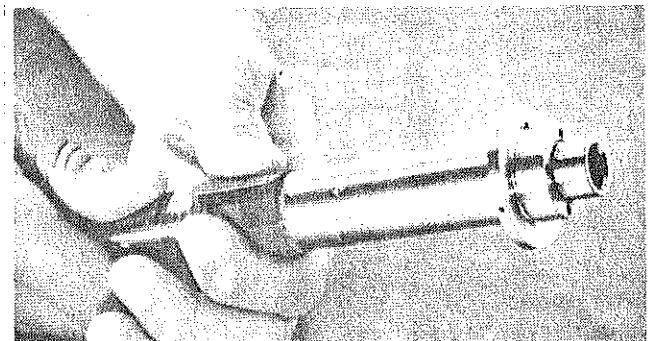

FIG. 20
2. Wrap abrasive paper over damaged area completely around shaft and then rotate the shaft. See Fig. 20. Continue only until the residue is removed. Check the repaired area with the micrometer to insure the repaired area is within .00015" of the undamaged area.